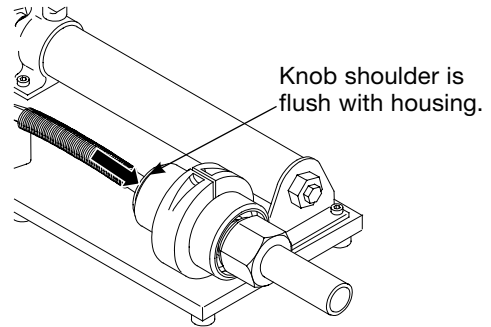

Fig. 4 Indicator Knob in Swaging Position
5. Push the indicator knob forward until it snaps into place. The **knob shoulder** should be flush with the hydraulic housing. See Fig. 4.